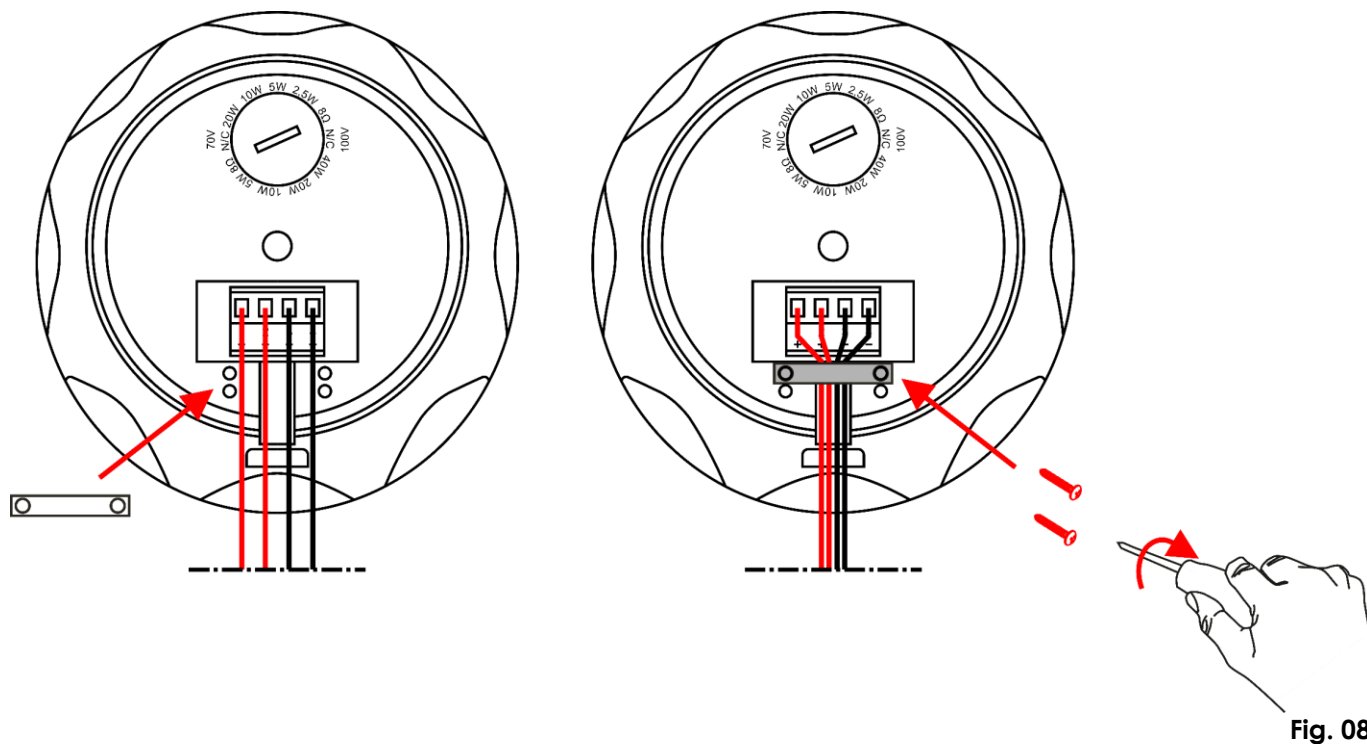

Fig. 08
03) Use the 2 supplied screws to attach the supplied cable bracket to the device. The cable bracket keeps the cables in place (Fig. 08).